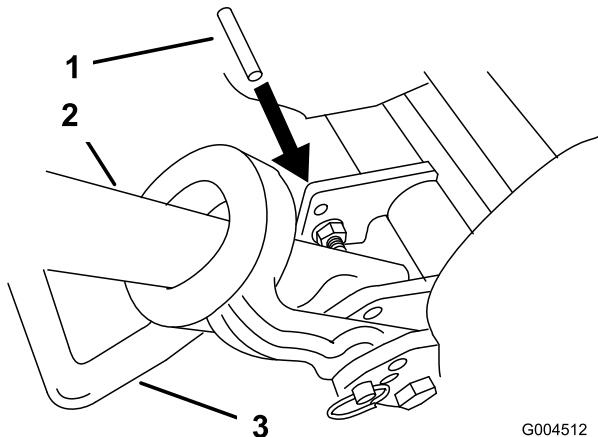

Figure 47
2. Lower kick stand. Insert a 1/4" dia. pin or equivalent into frame hole above kick stand mounting bolt (Figure 47).